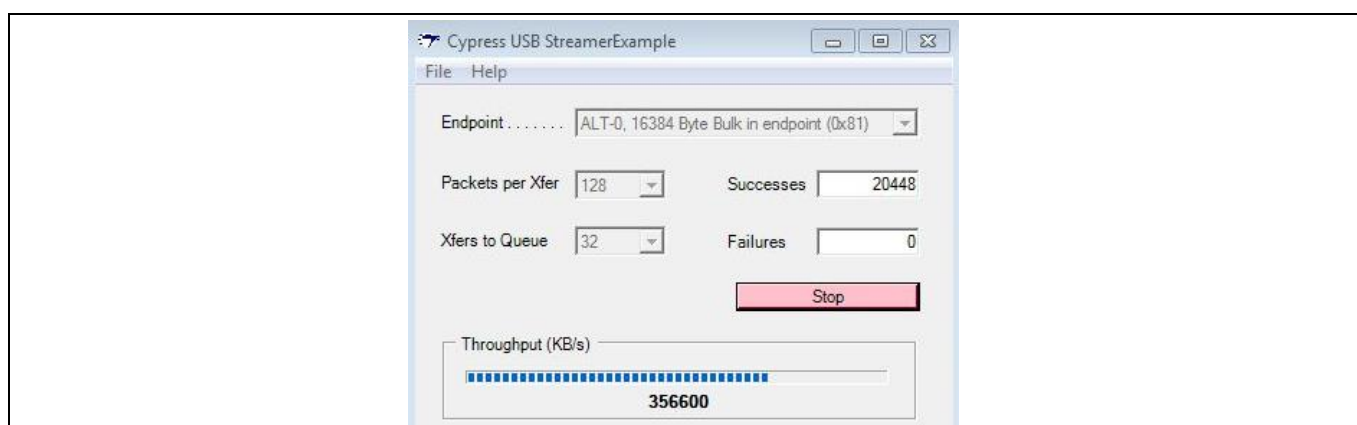

Figure 34 Streaming IN performance displayed in the streamer utility
6. In the stream IN case, now the FPGA is already in a state where it is waiting for FLAGA to equal 1. As soon as the buffer is available, the FPGA will start writing continuously to FX3's PIB_SOCKET_0. From the USB host, you can issue continuous Bulk IN transfers. Select the BULK IN endpoint in the streamer utility and click **Start**. The performance number is displayed. The performance shown in Figure 34 is observed on a Win7 64-bit PC with an Intel Z77 Express Chipset.
7. In the stream OUT case, the FPGA is already in a state where it is waiting for FLAGC to equal 1. As soon as the data is available, the FPGA will start reading continuously from FX3's PIB_SOCKET_3. From the USB host, you can issue continuous Bulk OUT transfers. Select the BULK OUT endpoint in the streamer utility and click **Start**. The performance number is displayed. The performance shown in Figure 34 is observed on a Win7 64-bit PC with an Intel Z77 Express Chipset.